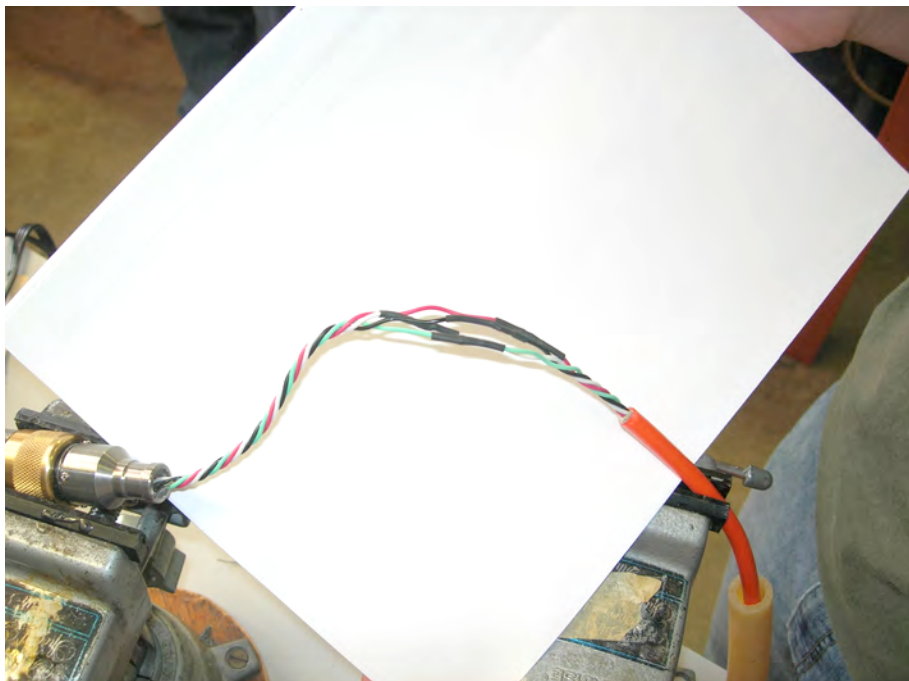

Figure 10: Heat shrink on solder joints.
15. Slip the heat shrink over the solder joints and seal with a heat gun (Figure 10)